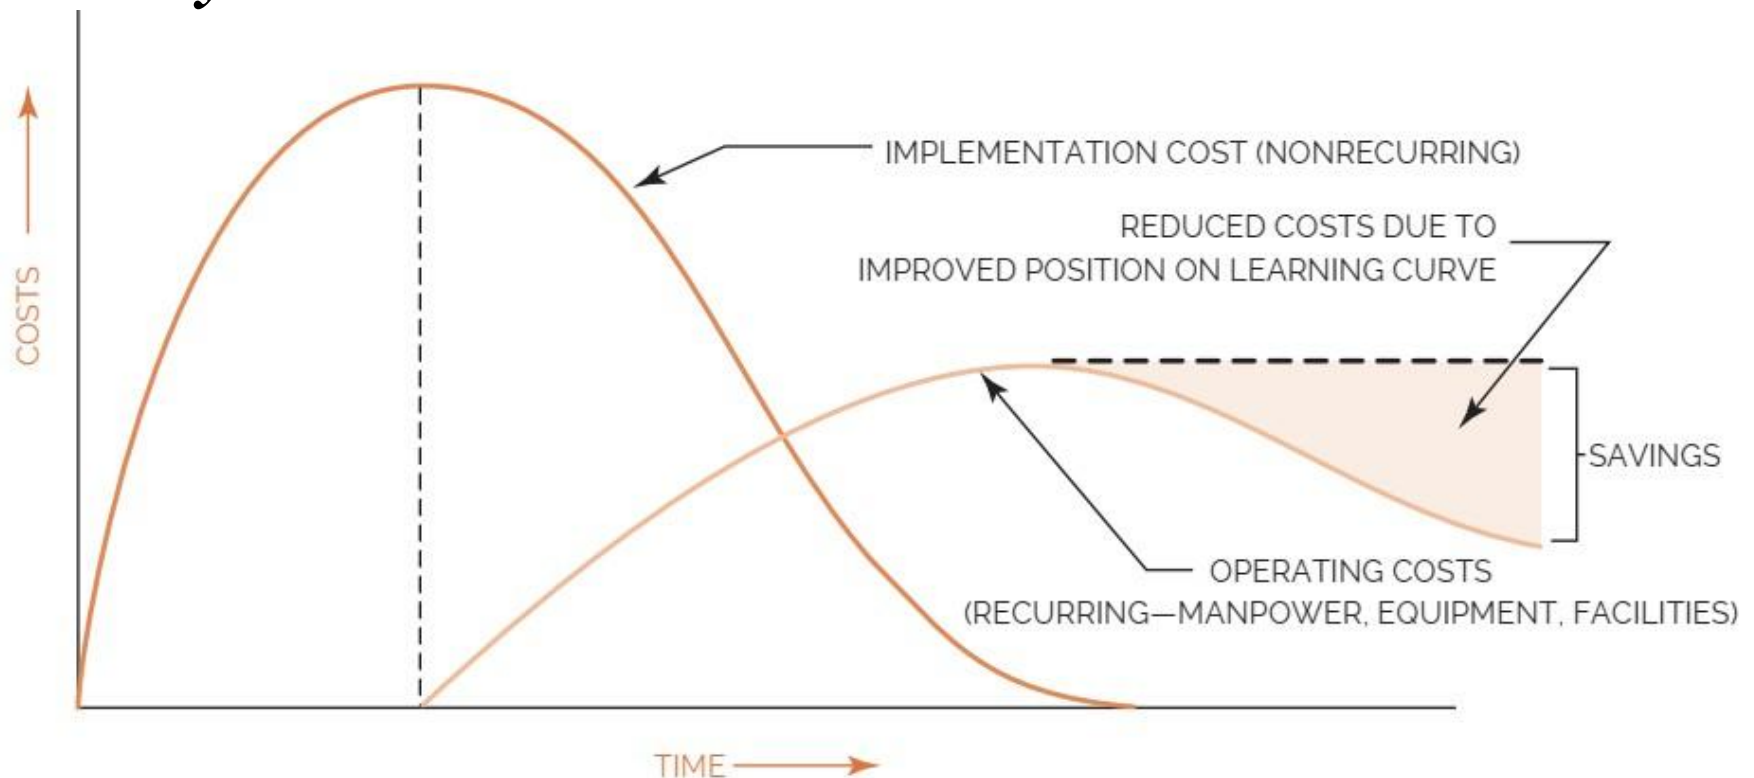

Fig 5.2: System Costs
- i. *System Costs (continued...):* As shown in Figure 5.2 next slide, most project or system costs can be broken down into operating (recurring) and implementation (nonrecurring) categories. The implementation costs include one-time expenses such as construction of a new facility, purchasing computer hardware etc. Operating costs, on the other hand, include recurring expenses such as manpower. The operating costs may be reduced due to improved position on learning curve. The learning curve is a graphical representation of repetitive tasks that, when done on a continuous basis, lead to a reduction on activity duration, resources and costs.